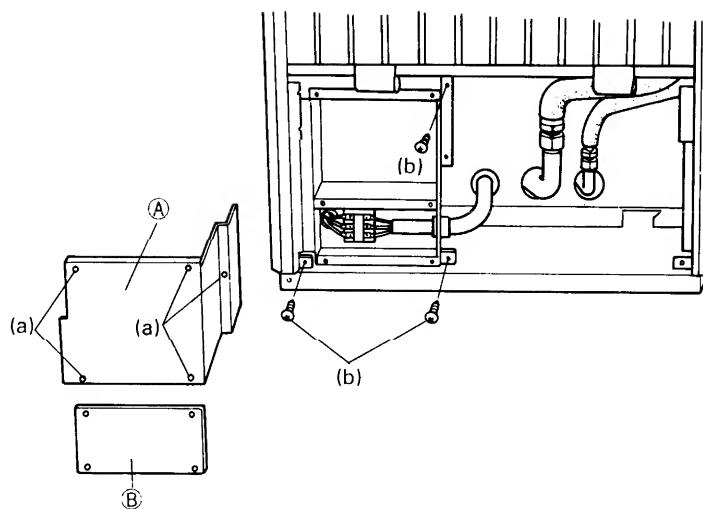

Fig. 2
- (2) Remove the two cover plates (A) and (B) on the electrical component box by unfastening the five screws (a).
- (3) The electrical components can now be checked. Remove the three screws (b) to pull out the electrical component box. (See Figure 2.)